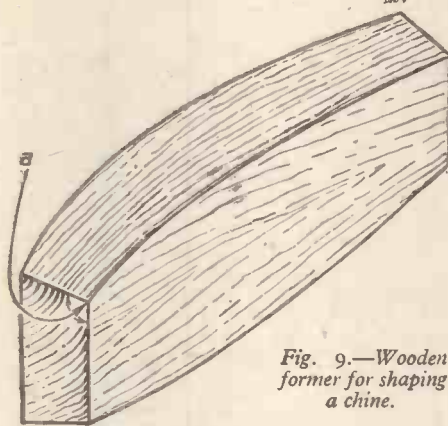

Fig. 9.—Wooden former for shaping a chine.
**I**N general the material for a single chine (see Fig. 8a) must be at least one gauge thicker than the plating, whereas the material for a double chine can be of the same thickness as the plating. Only a soft material that does not rapidly work harden is suitable for the manufacture of chine angles, and this practically limits the choice to soft commercially-pure aluminium sheet. The chine is formed by beating it to shape on a wooden former, as illustrated in Fig. 9. In plan, the former is shaped to the curvature